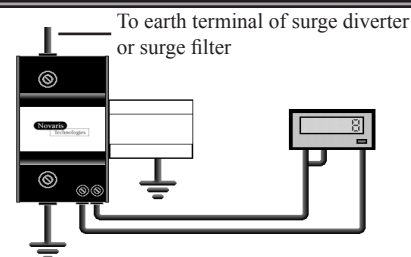

Figure 4: Installation of TSC1-DIN in Non MEN system
- 3.2 **TSC1-DIN/EC:** The TSC1-DIN-EC model is connected between two different earthing systems as shown in Figure 4. Again, lead lengths must be kept as short as possible.